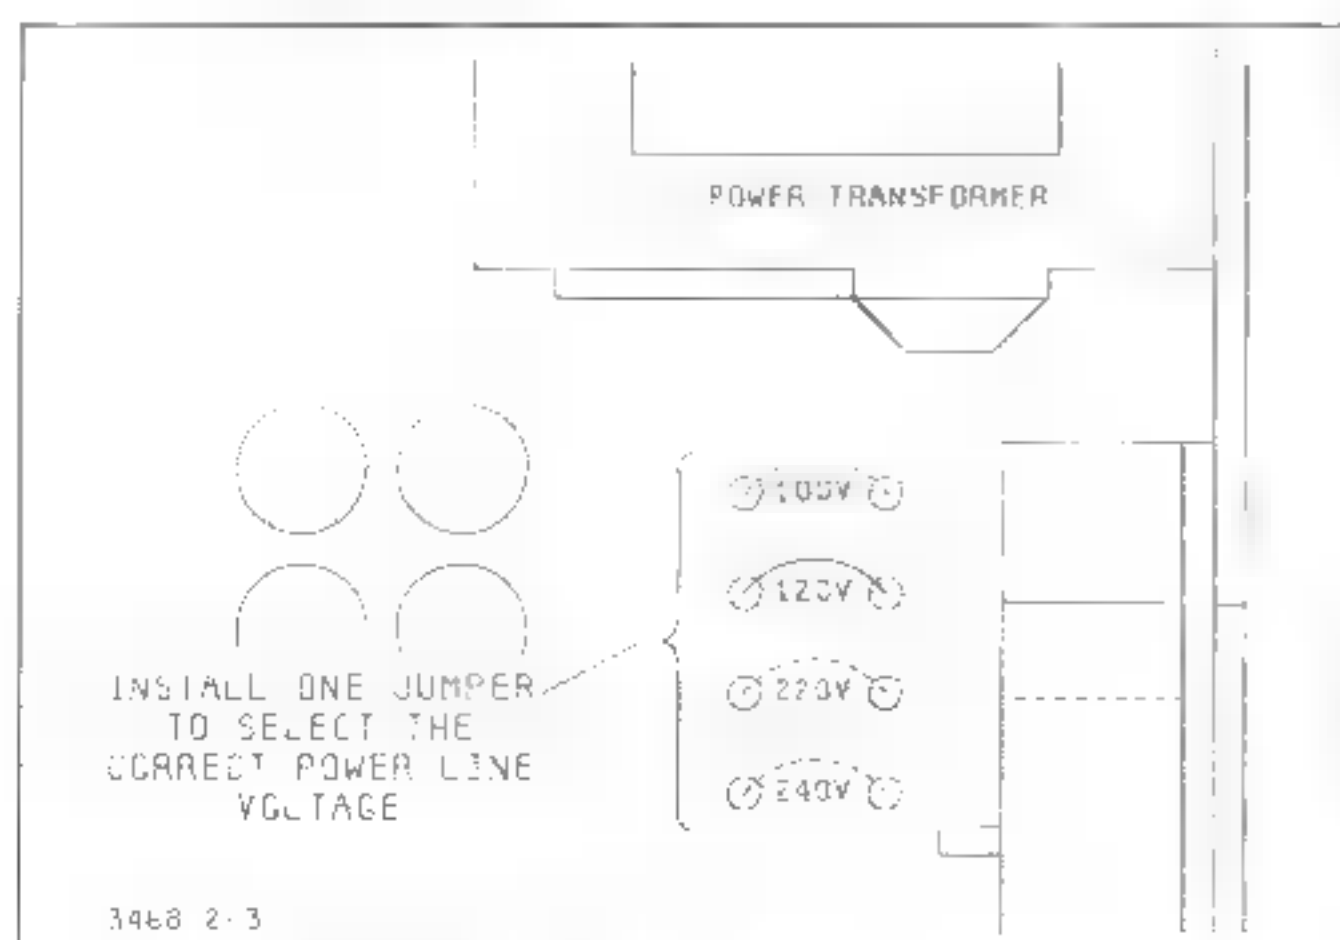

Figure 2-4. Power Line Voltage Configuration
6. Locate the power line select jumpers. They are located ■ the 3468A's main printed circuit board ■ the right side of the power transformer (see Figure 2-4). If the jumper is in the correct position, go to step c to reassemble the 3468A. If the jumper needs to be changed, continue with step b.
4. Refer to Figure 2-4 and locate the power line jumper (J701).
6. Refer to Figure 2-4 and install jumper J701 into the holes for the desired power line voltage (the solder in the holes may have to be removed, before the jumper can be inserted into the holes). Make sure there is a good solder joint between the jumper and printed circuit board trace. The line voltages and corresponding jumper are as follows: